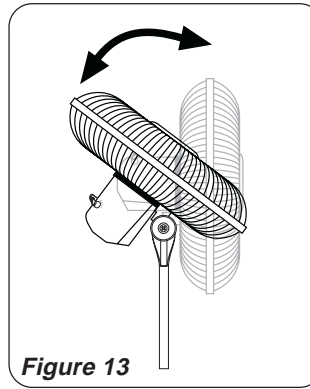

Figure 13
**TILTING:** This Fan is equipped with a multi-angle Fan Head for Whole-Room Air Circulation. Follow the steps below to properly adjust the "tilt angle" of your Fan. (Figure 13)